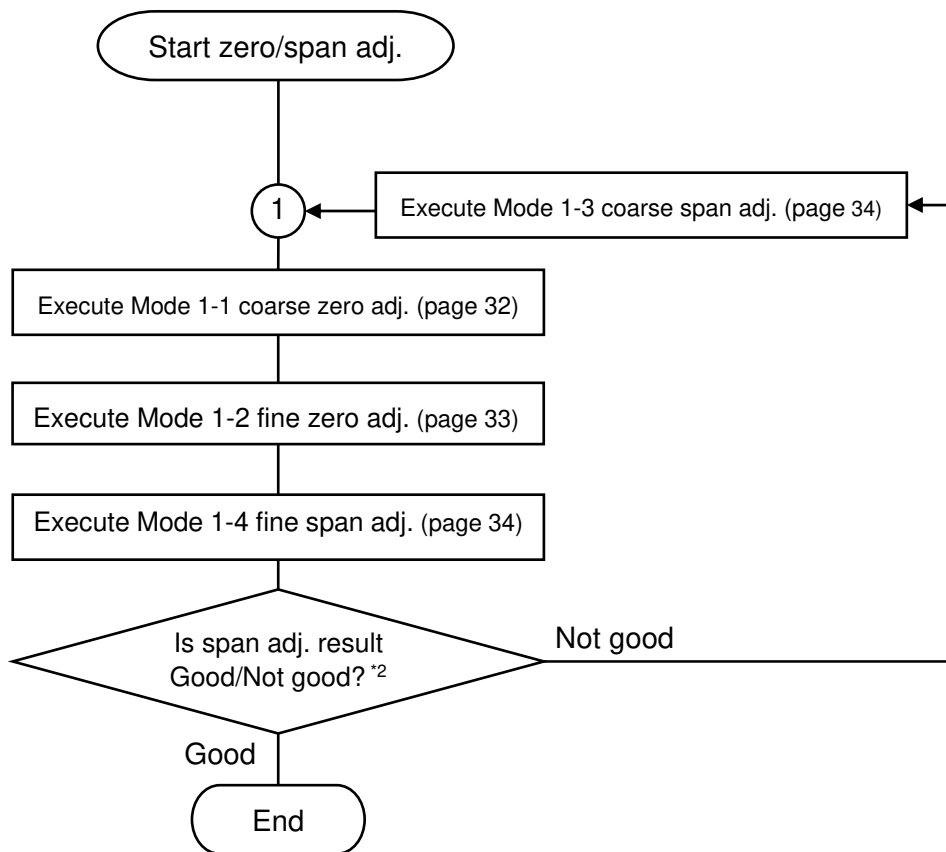

Figure 19. Zero/Span Adjustment Flowchart for Group 4/5
- One-touch zero adjustment is not available for units in Group 4/5. Perform a zero adjustment by taking the steps shown in Figure 19.